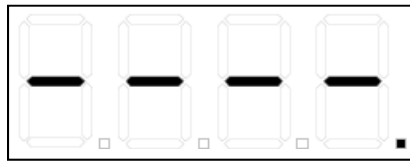

Fig. 2.1
- Access the programming level as described in Chapter 2.2.4. Fig. 2.1 appears. The diagnostics connector must be connected to A1.X3.